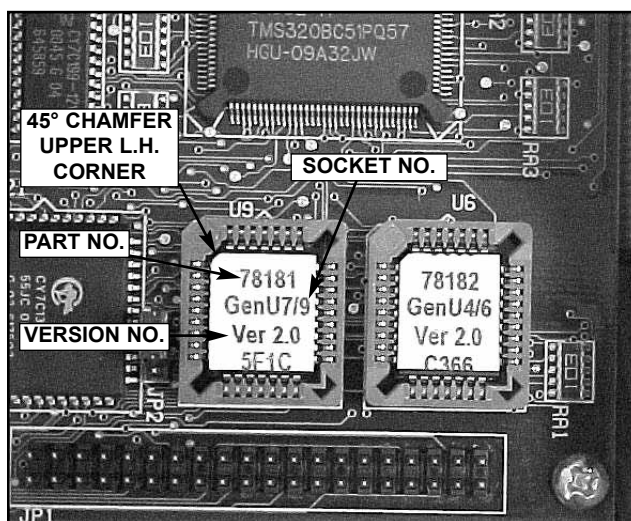

FIGURE 7.5
2. Using PLCC Extractor install new Software Chips into their respective sockets. See Figure 7.5.
The decal on the Chip(s) indicate the respective socket for installation. See Figure 7.5.
The Chips will only install one way into the socket. See Figure 7.5.